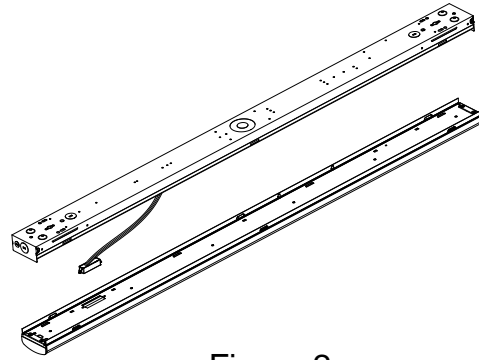

Figure 2
Step 2: Connect the dimming wires and 12V AUX wire to the approved sensor. (Figure 2)